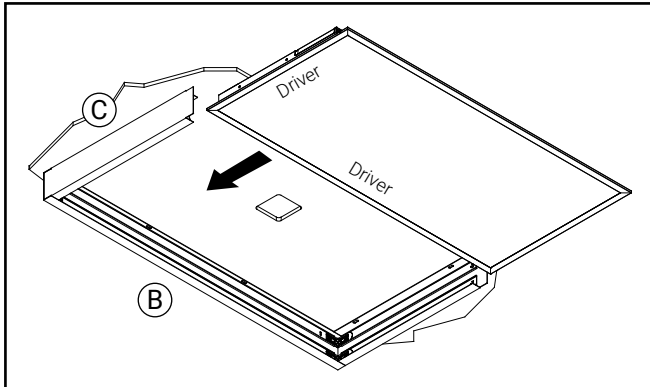

**Figure 5.**
11. Slide fixture into SMK canopy to confirm fit (Figure 5). Always insert driver side of luminaire into SMK so driver faces panel B or C regardless of luminaire size.